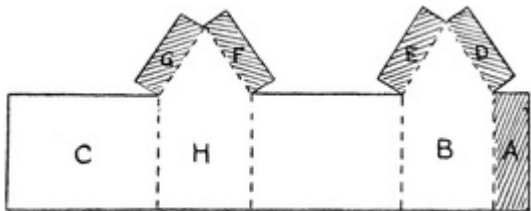
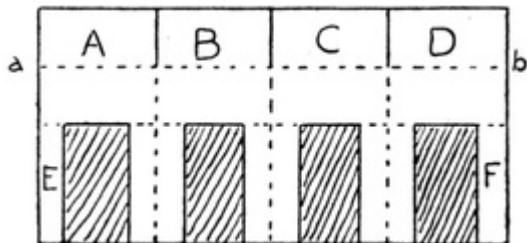
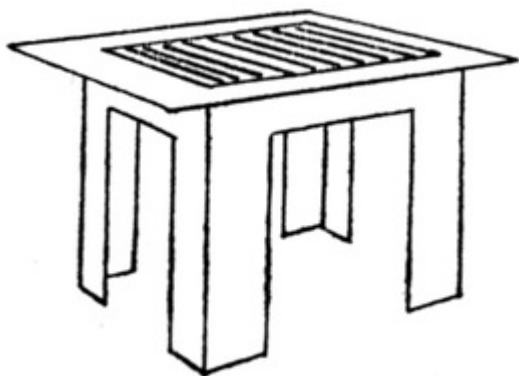

FIG. 1
FIG. 21
FIG. 22
Methods of joining Cardboard and Paper Edges. (1) Leaving a flange. In Fig. 1 the shaded portions represent flanges—flange A is for joining side of
If Fig. 1 is made of cardboard, flange A must have the surface of the cardboard pared away, otherwise the joining will be clumsy. The dotted lines represent bends only in the case of paper, but half cuts in the case of cardboard.
cartridge paper. Make the legs from a double square, each square the same size as top of table. Fold and cut the double square as in Fig. 21. Bend flaps A B C D carefully along *a b*. Gum A to B, C to B, D to A to form legs. Gum square top on to A B C D. A square of coloured paper can be gummed on to top of table as in drawing (Fig. 22). Leg E can be gummed to F by means of a paper hinge, or a flange may be provided, as in Fig. 1.